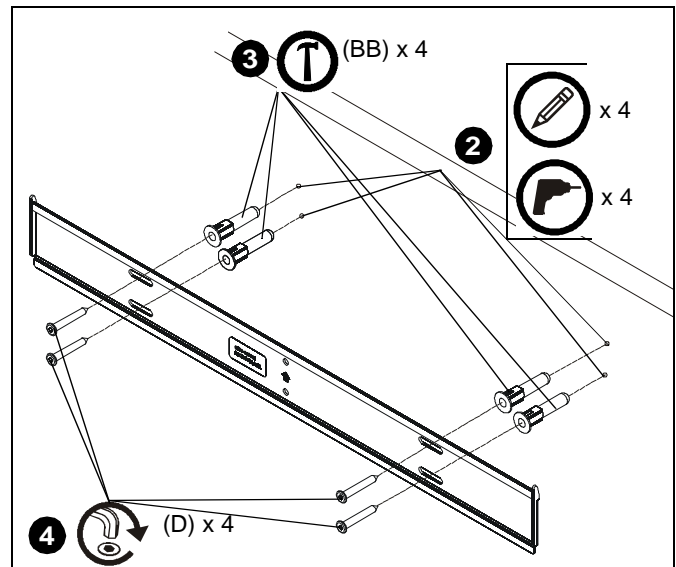

Figure 3
2. Using wall plate as a template, mark and then drill four 5/16" diameter pilot holes through mounting surface. Use level to make sure wall plate is perfectly horizontal. Holes must be drilled at least 2-1/4" deep. (See Figure 3)
3. Install four 5/16" anchors (BB) into pilot holes drilled in Step 2. Use a hammer to lightly tap anchors into holes. (See Figure 3)
4. Install four connector screws (D) through wall plate holes and into anchors. (See Figure 3)